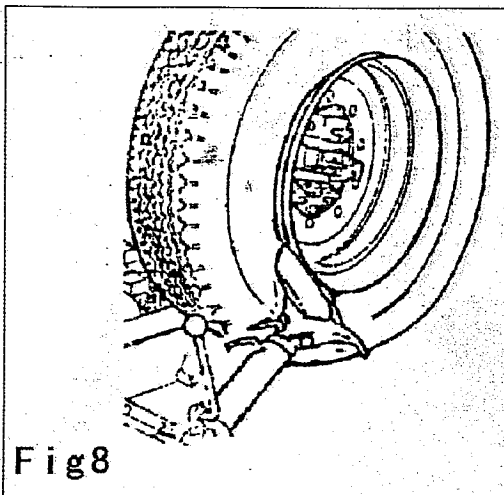

Fig 8
- (3) By means of levers (5) and let the disk (12) position itself close to the rim edge (fig. 8).